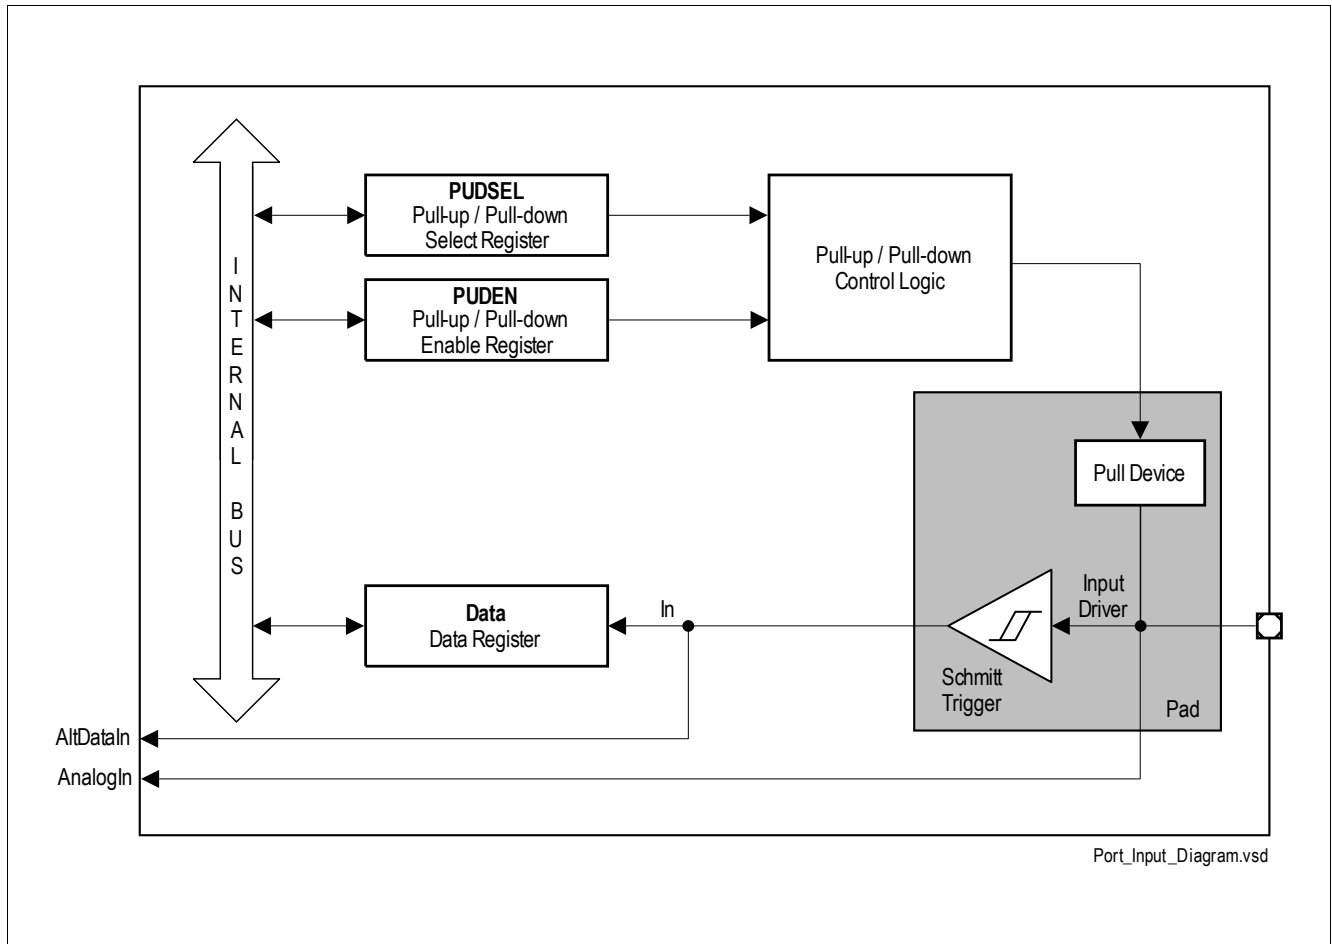

**Figure 19 General Structure of Bidirectional Port**
**Figure 19** shows the block diagram of an TLE9851QXW bidirectional port pin. Each port pin is equipped with a number of control and data bits, thus enabling very flexible usage of the pin.